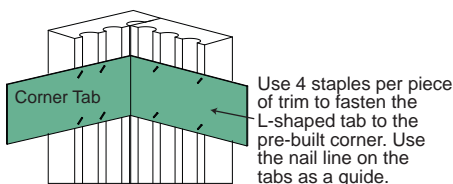

Figure 21
- Attach Corner Tabs to the back side of the trim with 8 18 ga. 1/2" x 1/4" narrow crown galvanized staples using a pneumatic staple gun. Ensure the Corner Tabs are fastened tight and straight to the trim boards. (Figure 21)